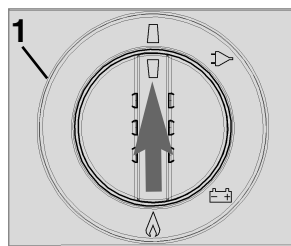

Fig. 40
- For battery igniter models, set energy selector switch "1" to position "OFF". The appliance is switched off (Fig. 40).